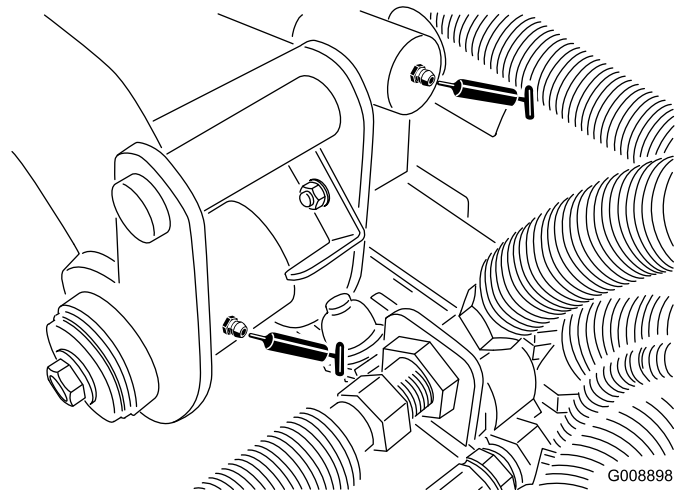

Figure 51
- Rear lift arm pivot and lift cylinder (2) (Figure 51)